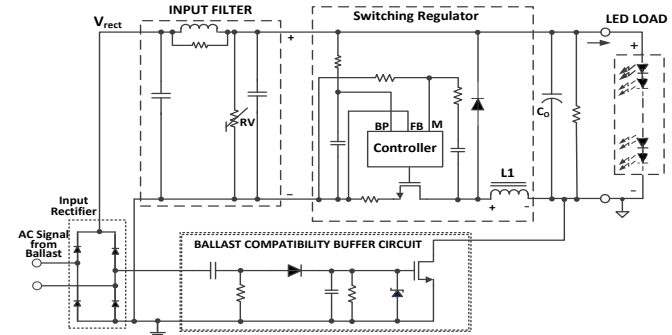
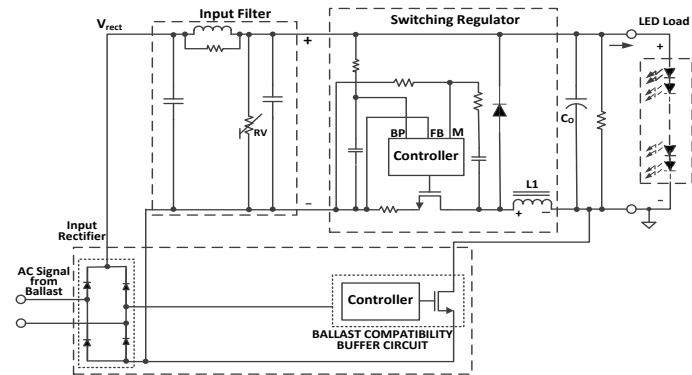

Figure 3. Example compatibility buffer circuit with an LED Driver
Figure 4. Example compatibility buffer circuit combined with the input rectifier
- ▶ Can be designed as integrated circuit (IC) with the LED driver (Figure 3), or combined with the input rectifier bridge (Figure 4) to be included in the LED tube